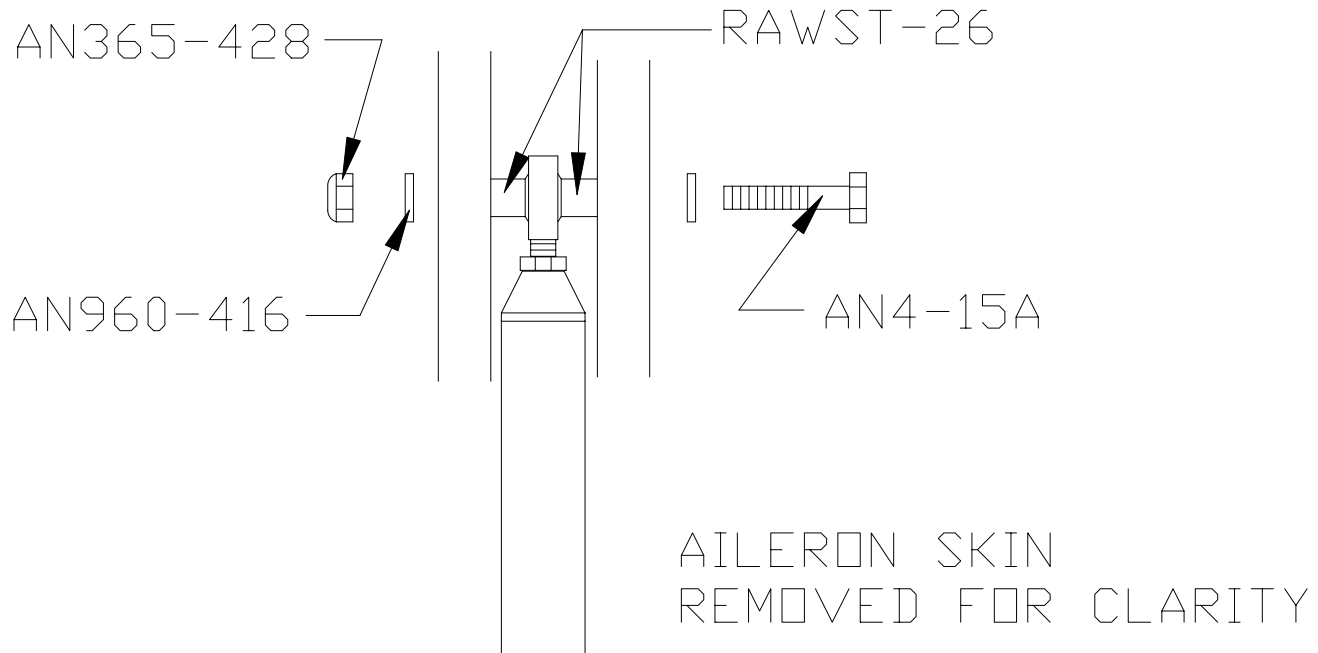

Figure 15.1.2
- 4) Use figure 15.1.2 as a guide and assemble a Push Rod between the two ribs. **NOTE:** Use the 1/4" hole you drilled at the top of the ribs (chapter 8 step 18) for attaching. Install the two spacers you made from RAWST-26.